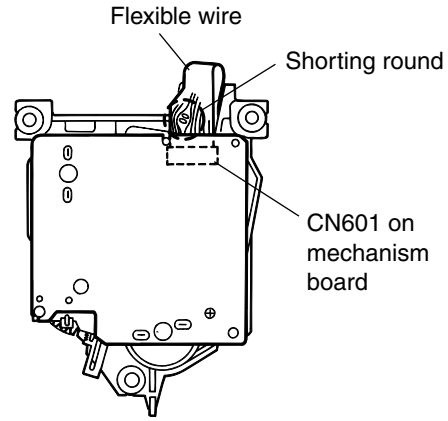

Fig. 11
■ Removing the Pickup (Refer to Figs. 11 to 14.)